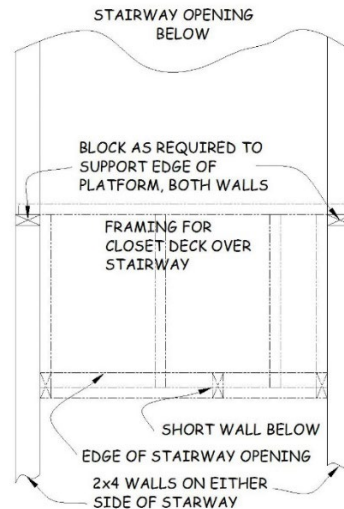

Figure 3-13. Stud Layout Around Stairway Opening.
- d. Locate the plates labeled '13¾" WALL/10¾" STUDS' and layout two end studs and one interior stud 24" o.c. (see Figure 3-13 and Section 3.6.4).